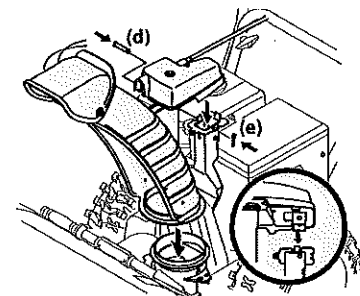

Figure 2-30
3. Place chute onto chute base and ensure chute control rod is positioned under handle panel. Secure chute control head to chute support bracket with clevis pin (d) and bow-tie cotter pin (e) removed in Step 1. See Figure 2-30.